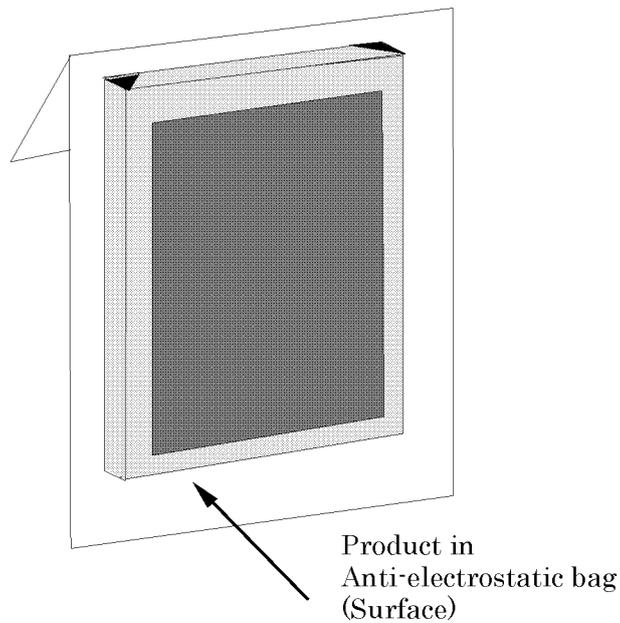

Fig.7
- Each of LCD module is packed in anti-electrostatic bag(Fig.7)